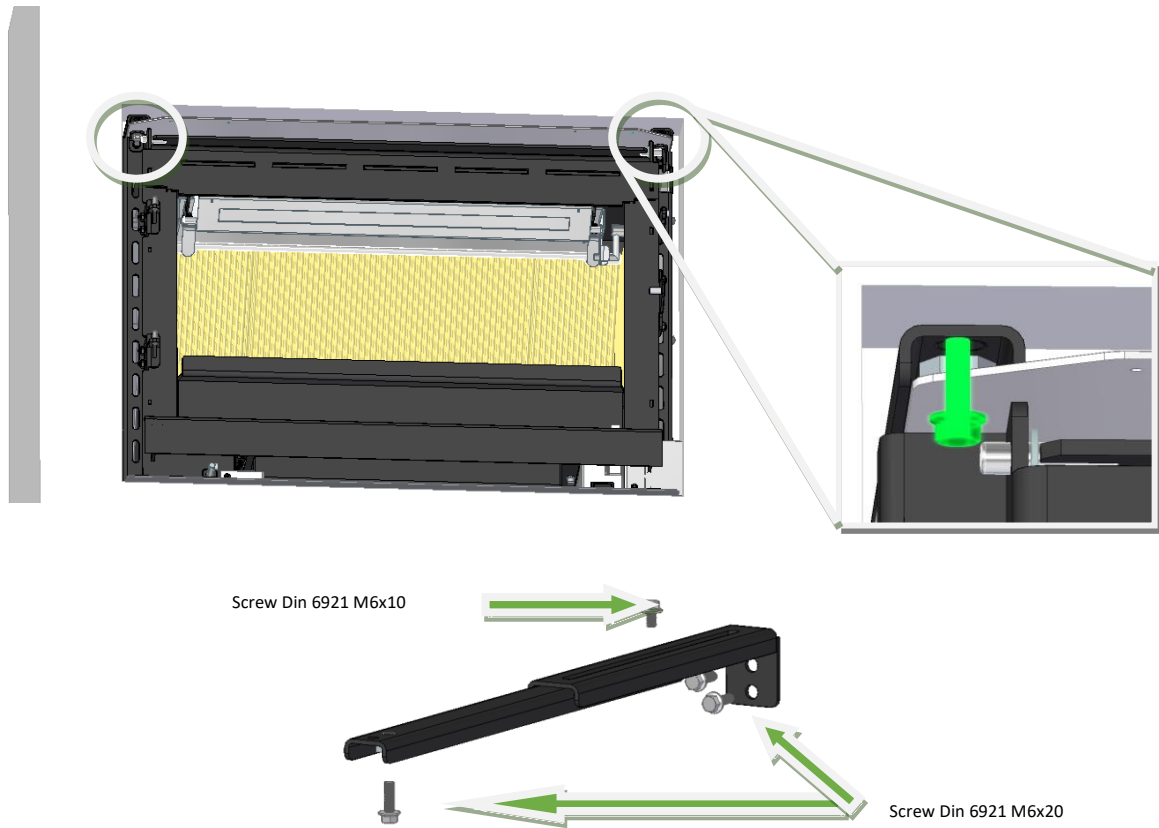

Figure 15 - Fixing the equipment to the top mounting brackets using hexagon socket screws Din 6921 M6x20 and M6x10
13. You should then fix the equipment to the upper supports as shown in Figure 15.